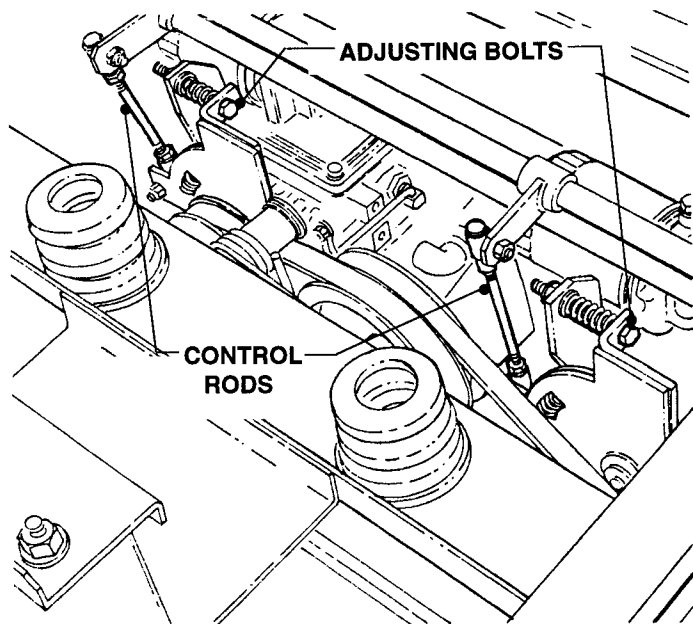

FIGURE 6.3
- f) If wheel(s) are rotating, disconnect Transmission Control Rods from Cross Shaft and turn Adjusting Bolts, located on Pump(s), clockwise, or counterclockwise, until rotation stops. See Figure 6.3.